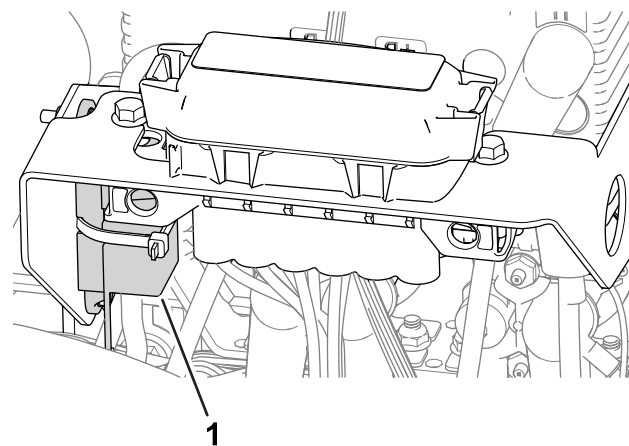

Figure 62
- The fuse for the left wheel motor (60 A) is located under the cover on the left side of the machine, near the reel-drive-circuit fuses (Figure 62).